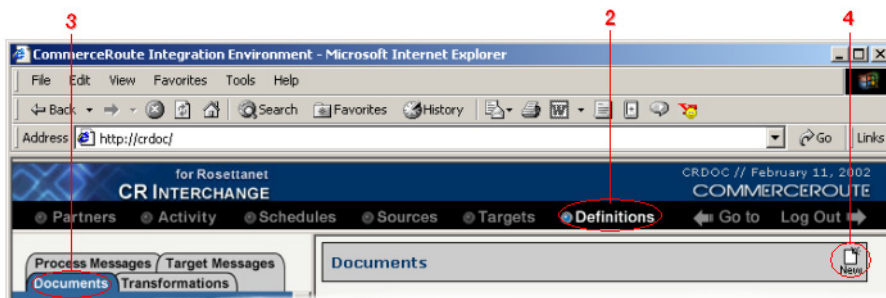

Figure 9-1. Start creating your new document definition by navigating to the **Definitions** page and selecting the **Documents** tab.
- 4 Click the **New** button in the toolbar (see Figure 9-1 below).